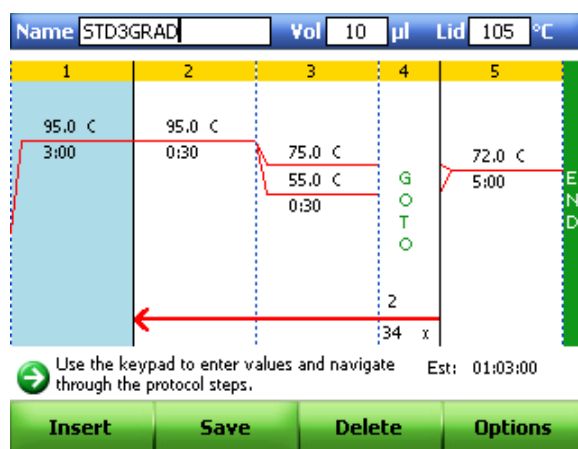

Figure 50. Enter the sample volume in the Vol field.
2. Using the alphanumeric keys, enter the sample volume in the **Vol** field (Figure 50).